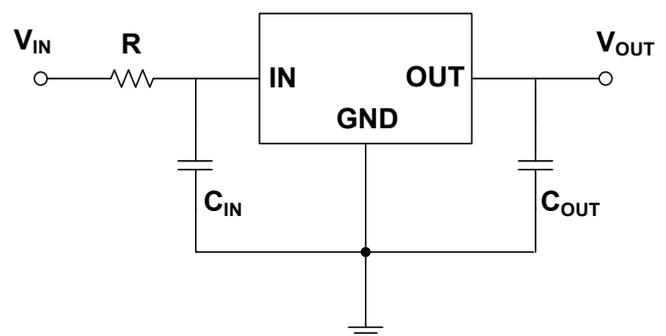

Figure 9-2. Resistance are used at IN
2. Place a resistor with appropriate resistance in series before the IN of the voltage regulator, which can help the voltage regulator share part of the energy in case of surge. The resistance value of the resistance should not be too large. The specific resistance value depends on the application of the circuit. Generally, the resistance value of this resistance does not exceed 20Ω. As shown in Figure 9-2.
For the CJ78 series, it is recommended that the input voltage should not exceed 17V and the peak voltage should not exceed 35V. **When the input voltage is greater than 17V, or the peak voltage that may be greater than 35V may appear in the practical circuit, it is recommended to adopt the circuit layout shown in Figure 9-2 in the circuit design.**
The CJ78 series can obtain better transient response with the help of output capacitance. However, if the output capacitor is relatively large, the surge current generated by the charging of the output capacitor will also be large at the moment of power on of the regulator, and the large surge current passing through the regulator may damage the internal circuit. When the output capacitance is large, adopting the circuit design shown in Figure 9-2 will reduce the possibility of damage to the device due to large surge current to a certain extent. It is recommended that the selection of output capacitor should not exceed 20 $\mu$ F. **If the selection of output capacitor exceeds 20 $\mu$ F, it is recommended to adopt the circuit design in Figure 9-2 to reduce the possibility of accidental failure of the device due to large surge current during power on.**
It is recommended that the output capacitor ( $C_{OUT}$ ) should not exceed 20 $\mu$ F. When the output capacitor ( $C_{OUT}$ ) exceeds 20 $\mu$ F, it is recommended to use the circuit layout shown in Figure 9-2. See *Large Output Capacitance* for more details.